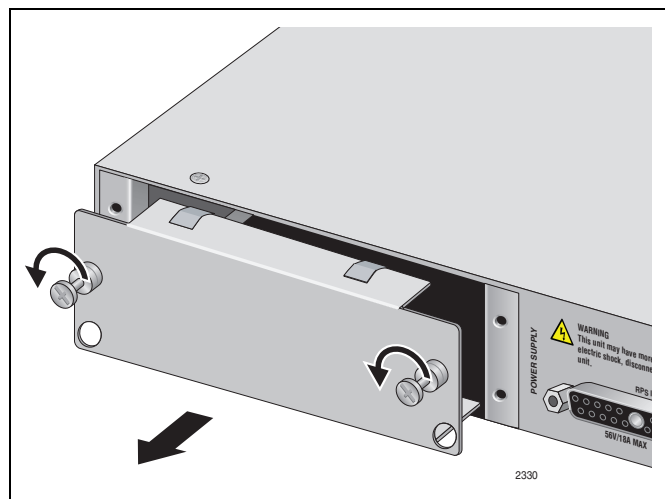

Figure 47. Removing the Blank Panel from the Power Supply Slot
2. Remove the blank panel from the power supply slot on the rear panel of the switch by loosening the two captive screws on the panel with a cross-head screwdriver, as shown in Figure 47.